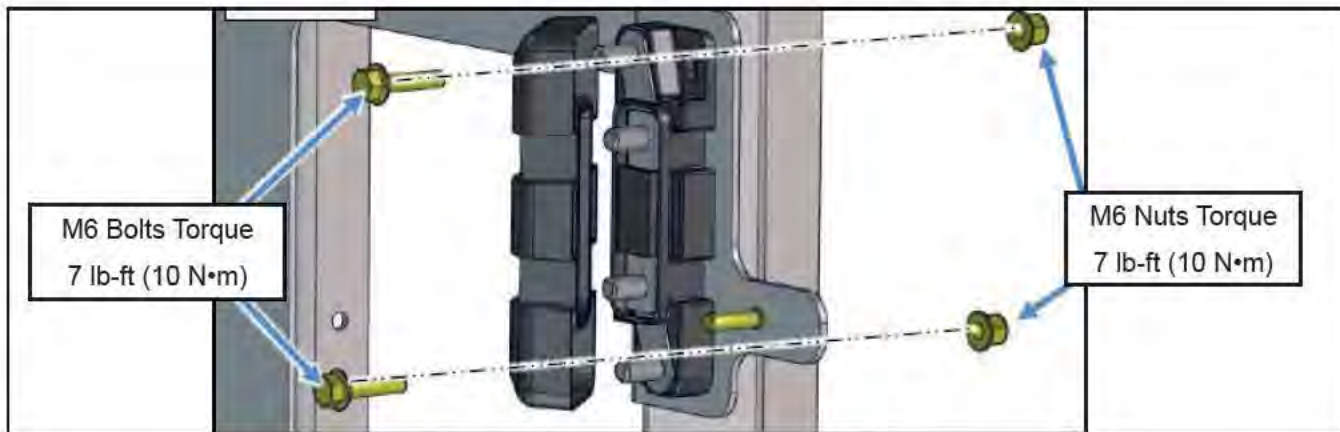

Figure 7 - Fuse Holder Installation and Torque
- 1.20. Install the fuse holder N84769 on the structure using the retained M6 bolts and nuts. See Figure 7 for torque value. Do not apply torque seal at this step.
The M6 anchor bolts and nuts of the fuse holder shall be installed as indicated in Figure 7.